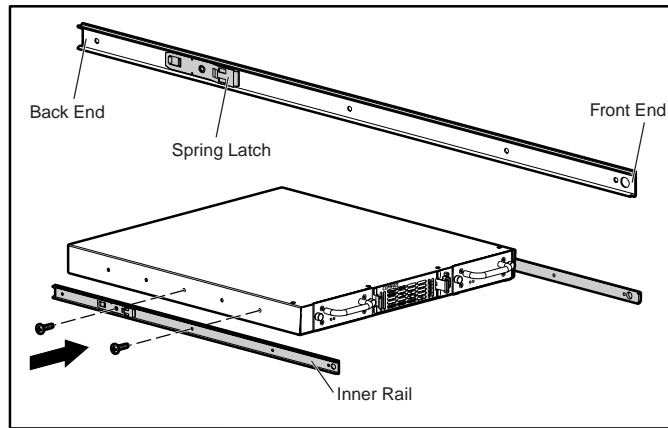

Figure 16: Attaching inner rails to the router
5. Attach an inner rail to each side of the router (see Figure 16).